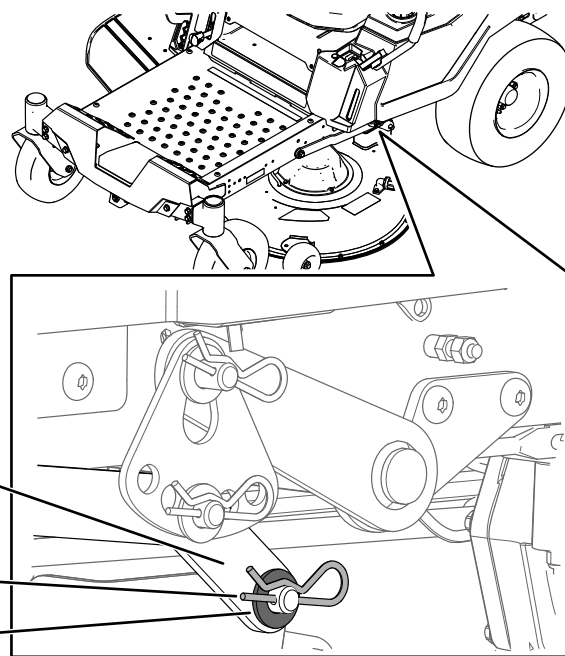

Figure 62
- A. On one side of the machine, lift the rear of the mower deck and install the lift arm to the deck pin (Figure 62).